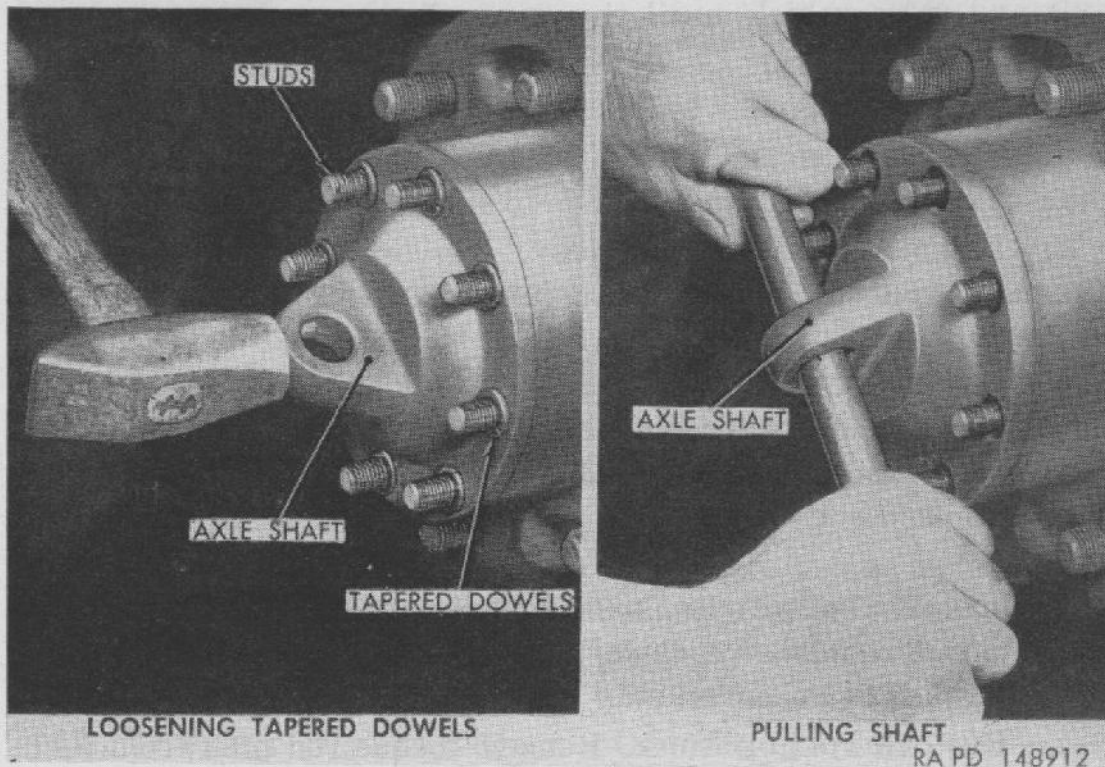

Figure 121. Removing axle shaft.
b. AXLE SHAFT REMOVAL. Remove eight stud nuts at hub. Strike end of axle shaft (fig. 121) with hammer to loosen tapered
dowels; then remove dowels. Insert small steel bar through eye in end of axle shaft (fig. 121) and pull shaft out of axle.